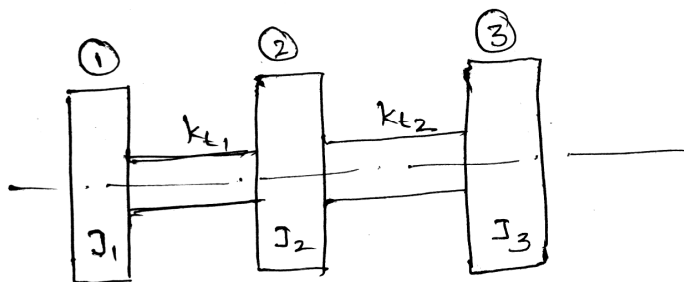

Figure 5 Q.10
10. Determine the natural frequencies of the system shown in Fig. 5 using Holzers method. Given $J_1 = J_2 = J_3 = 1 \text{ kgm}^2$, $K_{t1} = K_{t2} = 1 \text{ Nm/rad}$. 20